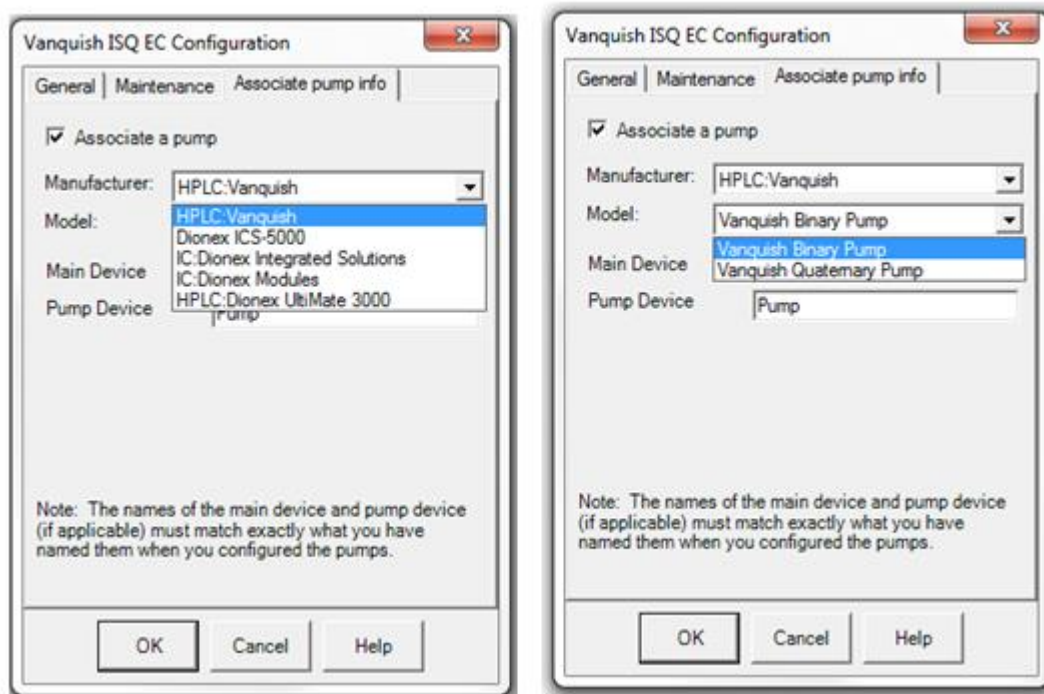

Figure 72: MS configuration – Adding pump information
- 28) Use the drop-down menus for **Manufacturer** and **Model** to choose the proper settings for the pump installed on the system. See Figure 72.